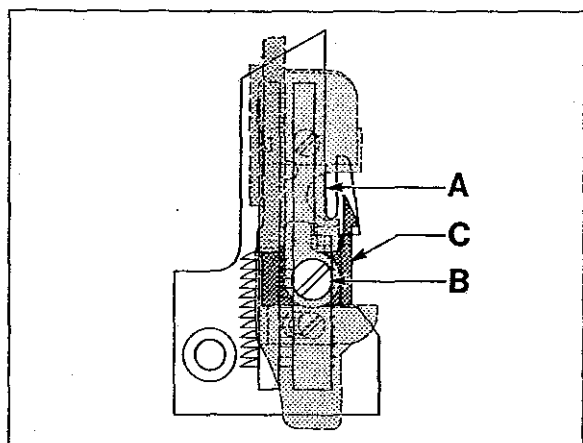
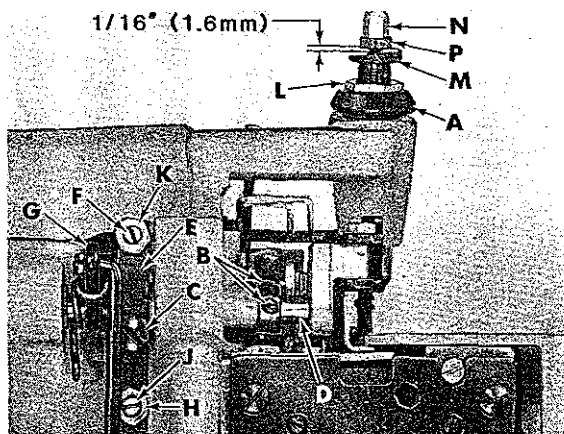

Fig. 16
Fig. 17
Right edge of presser foot must align with left edge of needle slot in throat plate as shown Ref. Point A, Fig. 16.
Presser foot must lie flat on throat plate. The adjustable stitch tongue on presser foot must center over stitch tongue of throat plate as shown in Fig. 16.
With presser foot locked in sewing position by release bushing (A, Fig. 17), loosen collar screws (B) and clamp screw (C), then adjust lifter lever shaft (D) left to right until the right edge of presser foot aligns with the left edge of needle slot in throat plate as shown Ref. point A, Fig. 16. Tighten collar screws (B, Fig. 17) and while holding lifter lever arm (E) so its stop screw (F) is against intermediate lever (G), tighten clamp screw (C).
Completely unlock release bushing (A, Fig. 17). Plunger should clear presser arm without binding.
Loosen screw (B, Fig. 16) and adjust stitch tongue (C) left to right, to center over stitch tongue of throat plate as shown in Fig. 16, then tighten screw (B).
Loosen locknut (H, Fig. 17) and adjust stop screw (J) so presser foot will not interfere with upper looper, then tighten locknut (H).
Rotate handwheel in operating direction until both main and differential feeds are positioned below throat plate. Loosen locknut (L, Fig. 17) and turn adjusting screw (M) clockwise for more pressure or counterclockwise for less pressure, then tighten locknut (L).
Lock presser foot in position with pressure release bushing (A); loosen capnut (N) and adjust nut (P) up or down so its under surface is 1/16 inch (1.6mm) above screw (M) as shown in Fig. 17. Hold nut (M) in position and tighten capnut (N).